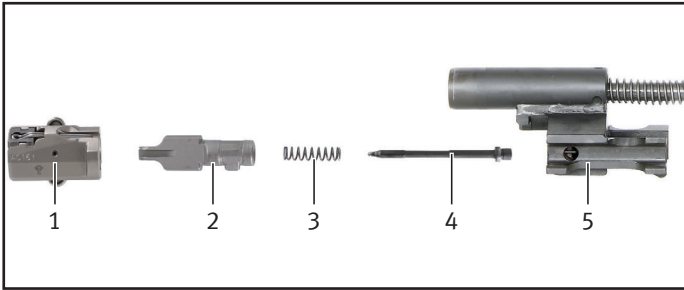
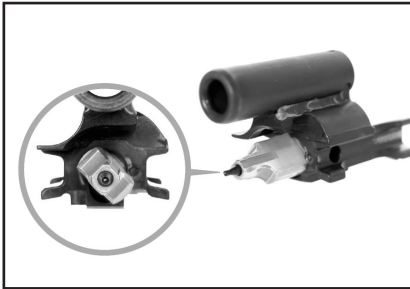

Fig. 45 – Assemble bolt group
Fig. 46 – Assembly position for locking piece
1. Push pressure spring for firing pin onto firing pin (Fig. 45).
2. Place firing pin with pressure spring for firing pin into bolt head carrier (Fig. 45). Observe assembly position of locking piece (Fig. 46).
4. Turn locking piece anti-clockwise until assembly position has been reached (Fig. 46).